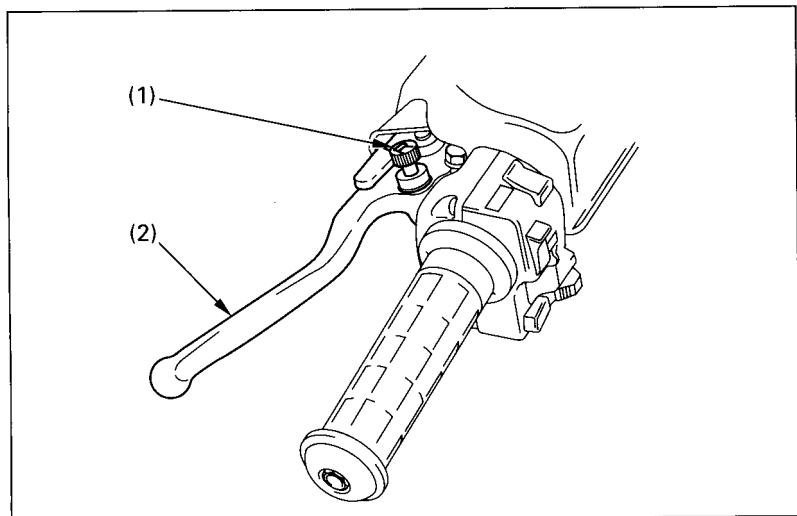

Fig. 2-17 (1) Reverse selector knob (2) Rear brake lever
The reverse selector knob (Fig. 2-17) (1) is on the rear brake lever.